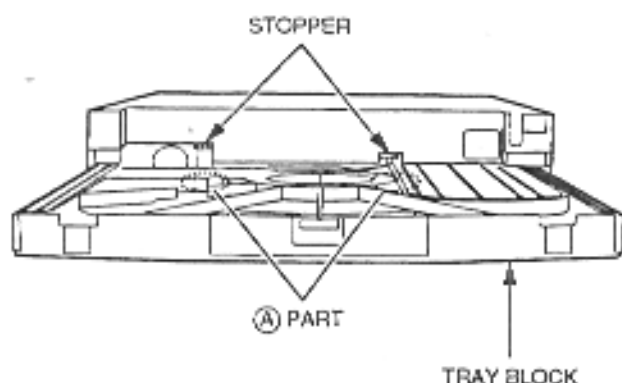

Fig. 3-10
- 2) In order to disengage the two stoppers, carefully press the (B) part of the TRAY BLOCK downwards while pulling the TRAY BLOCK out as shown in Fig. 3-10.